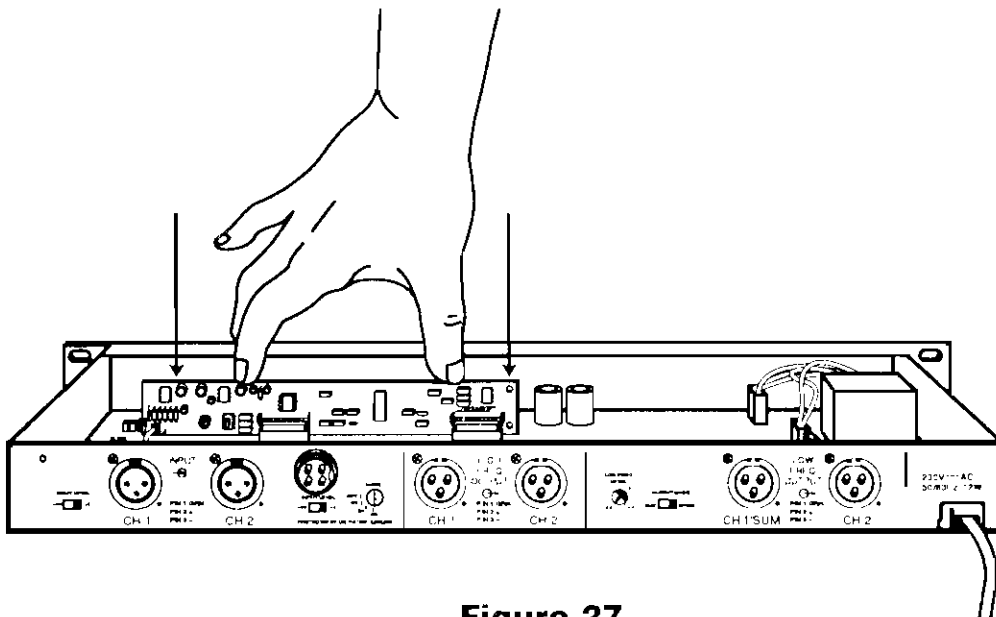

Figure 27
3. Insert the circuit board into the multipin receptacles inside the systems controller (Figure 27). The component side faces you. The J1 jack is on the left side. Press gently to seat both plugs firmly in the receptacles. Do not force.